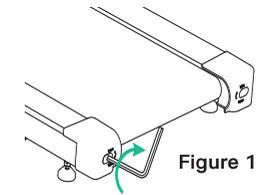

Figure 1
- If the walk belt has shifted to left, use the hex tool to turn the left idler roller screw clockwise $\frac{1}{4}$ of a turn (refer to figure 1).